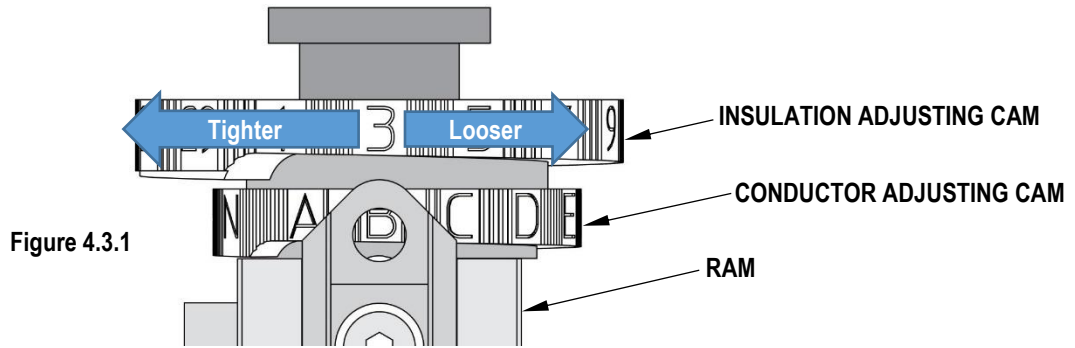

Figure 4.3.1
1. **Insulation crimp height** is adjusted by rotating the insulation adjusting cam on the ram. See Figure 4.3.1. The loosest (highest) crimp height is position 1, and the tightest (lowest) crimp height is position 29. Each click of this cam is approximately 0.025mm (.001") adjustment.
2. **Conductor crimp height** is adjusted by rotating the conductor adjusting cam on the ram. See Figure 4.3.1. The loosest (highest) crimp height is position A, and the tightest (lowest) crimp height is position N. Each click of this cam is approximately a 0.015mm (.0006") adjustment.